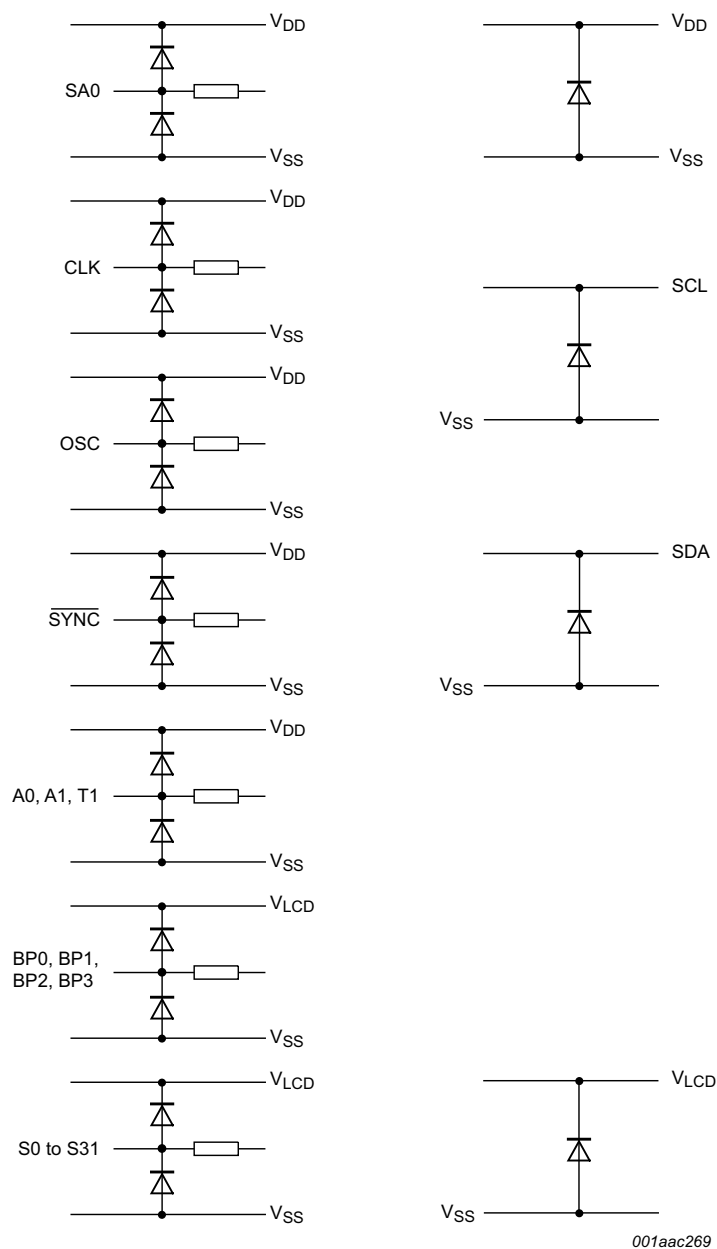

Fig 22. Device protection circuits
- [5] When tested, I2C pins SCL and SDA have no diode to  $V_{DD}$  and may be driven to the  $V_I$  limiting values given in Table 18 (see Figure 22 as well).